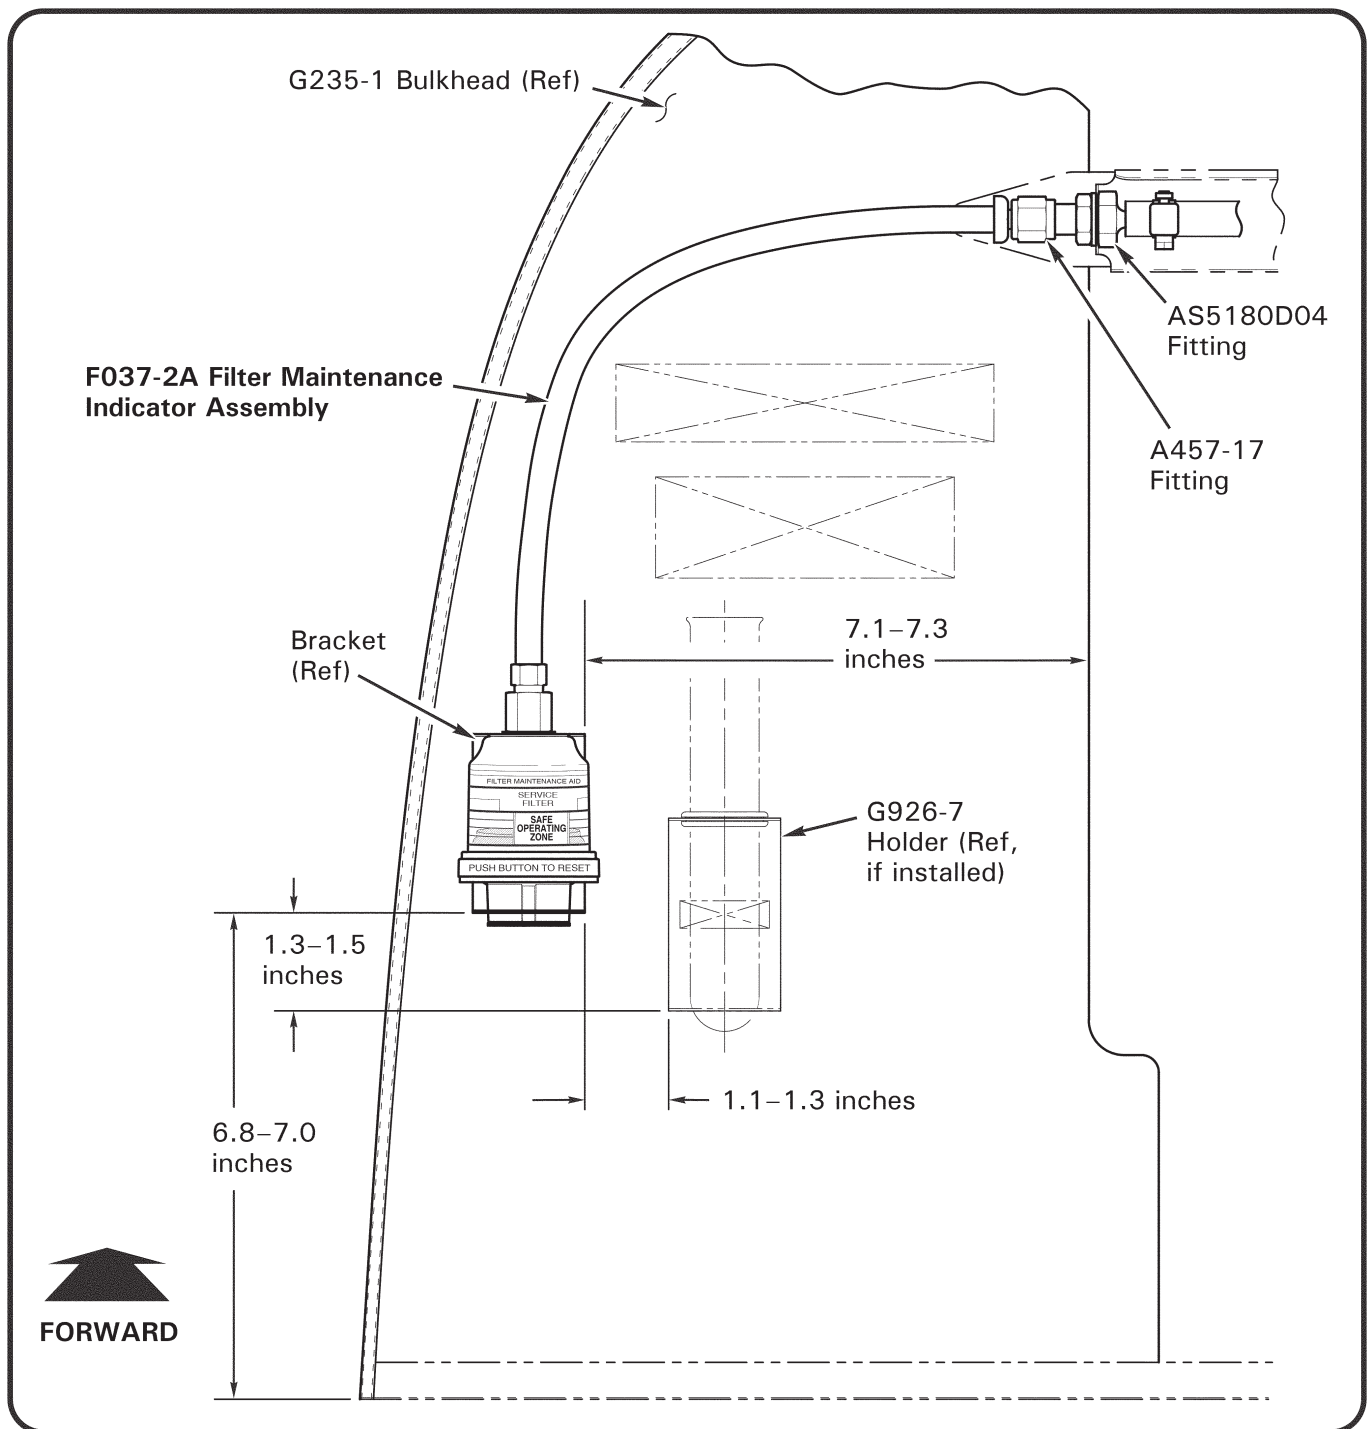

FIGURE 3A Earlier helicopters with G926-7 holder
12. Refer to Figure 3A or 3B. Open left-side access door to airframe engine oil tank. Lay out dimensions on G235-1 bulkhead for installation of filter maintenance indicator assembly bracket. Clean bulkhead using cloth dampened with acetone. Peel off tape liners and firmly press bracket to bulkhead; verify security. Remove and discard cap from AS5180D04 fitting. Connect A457-17 fitting to AS5180D04 fitting and special torque per MM § 20-33 (engine induction); verify security. Close access door.